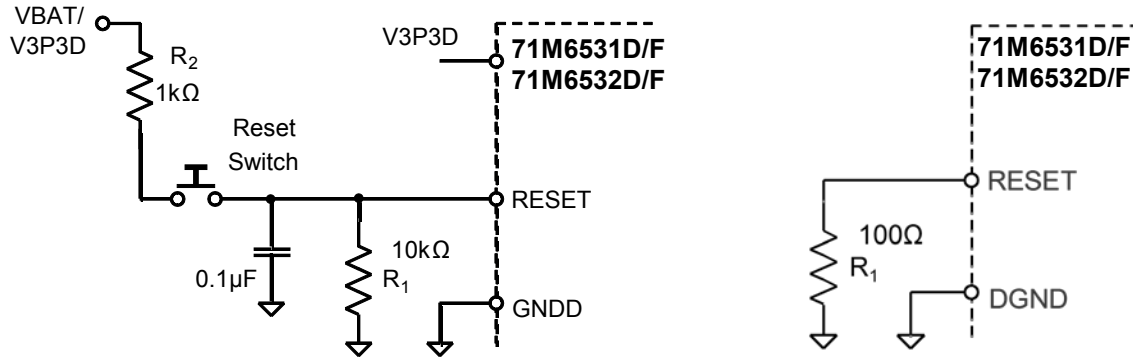

Figure 38: External Components for the RESET Pin: Push-button (Left), Production Circuit (Right)
Even though a functional meter will not necessarily need a reset switch, it is useful to have a reset push-button for prototyping as shown in Figure 38, left side. The RESET signal may be sourced from V3P3SYS (functional in MISSION mode only), V3P3D (MISSION and BROWNOUT modes), or VBAT (all modes, if a battery is present), or from a combination of these sources, depending on the application.
For a production meter, the RESET pin should be protected by the by the external components shown in Figure 38, right side. R1 should be in the range of 100 Ω and mounted as closely as possible to the IC.
- Since the 71M6531 generates its own power-on reset, a reset button or circuitry, as shown in Figure 38, is only required for test units and prototypes.